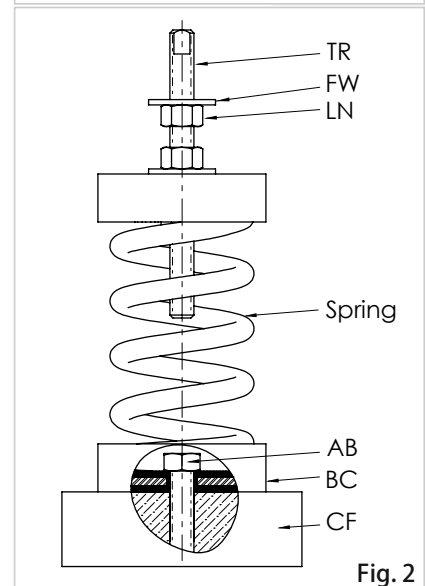

Fig. 2
- 3)** Secure the isolator's base cup (BC) to the equipment support structure - concrete foundation or metal frame (CF), according to the equipment base's drawings for the locations of the mounting holes. As per figure 2, the open spring mount's base cup (BC) has a \varnothing 1/2" center hole for attachment. All bolts and anchor hardware (AB) must be a minimum of grade 5. If recommended by the manufacturer or installation engineer a higher grade, then follow their recommendation. All anchors (AB) must be installed according to the installation drawings and instructions (anchoring hardware supplied by others).
- 4)** Remove the lock nut (N) and top washers (TW) from the threaded rod (TR). Leave the leveling nut (LN) and the flat washer (FW) assembled on the threaded rod (TR), as shown in figure 2.